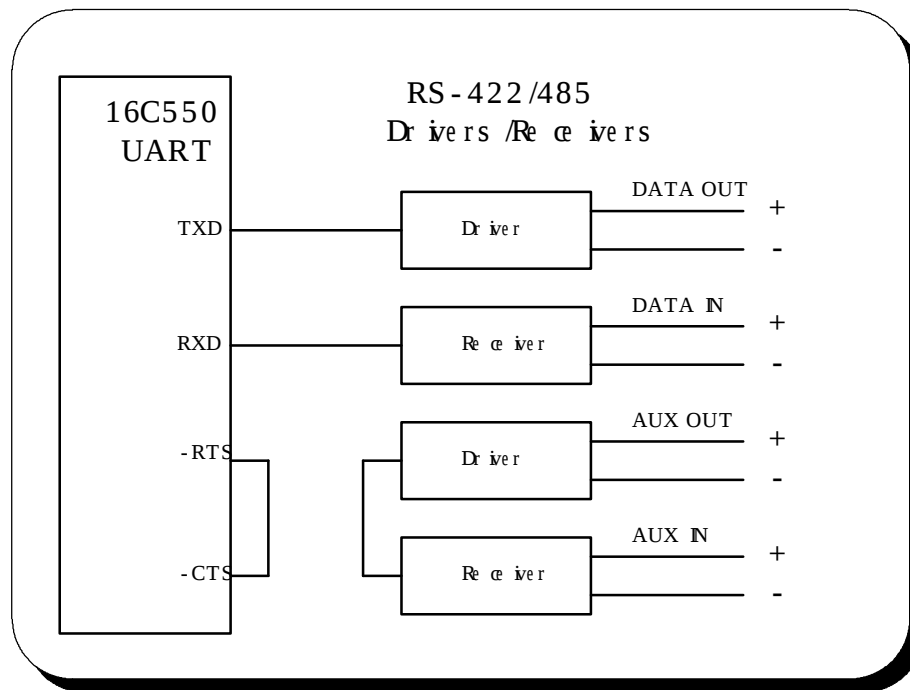

Figure 10. Auxiliary Channel Handshaking Disabled
3. The DSP-200 / 300 “parent device” belongs to this hardware class. The device name for the DSP-200 / 300 is **Quatech DSP-200/300 PCMCIA Two-Port RS-422/RS-485 Serial Adapter**. (Figure 10)
2. Double click on the hardware class **Quatech Multiport Serial Devices** to list hardware devices in the class. (Figure 10)
3. The DSP-200/300 “parent device” belongs to this hardware class. The device name for the DSP-200/300 is **Quatech DSP-200/300 PCMCIA Two-Port RS-422/RS-485 Serial Adapter**. (Figure 10)